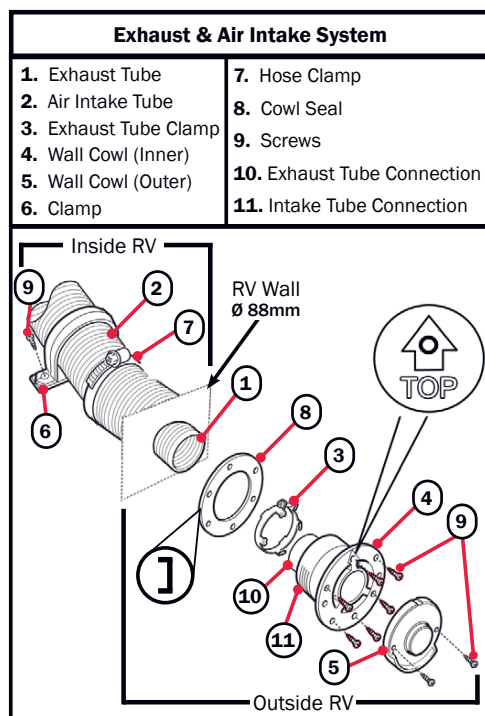

Figure 9
- Drill one hole (Ø 88mm) in the RV wall and seal with the gasket (Figure 9 #8) smooth side facing the exhaust vent and gasket facing the RV wall (Figure 9 #3).